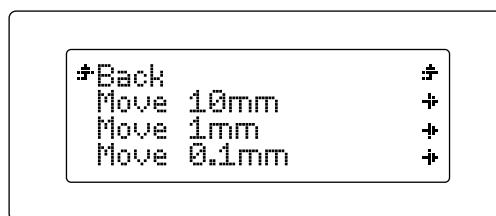

Figure 3.6 Jog option
- **Jog:** select this option to independently move any of the printer’s motors (fig. 3.6). There are three sub-options: